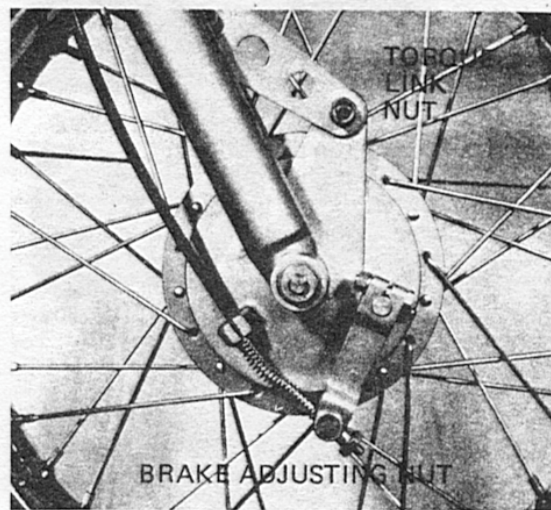

Fig. 43
A. Removing the Front Wheel (Figure 43)